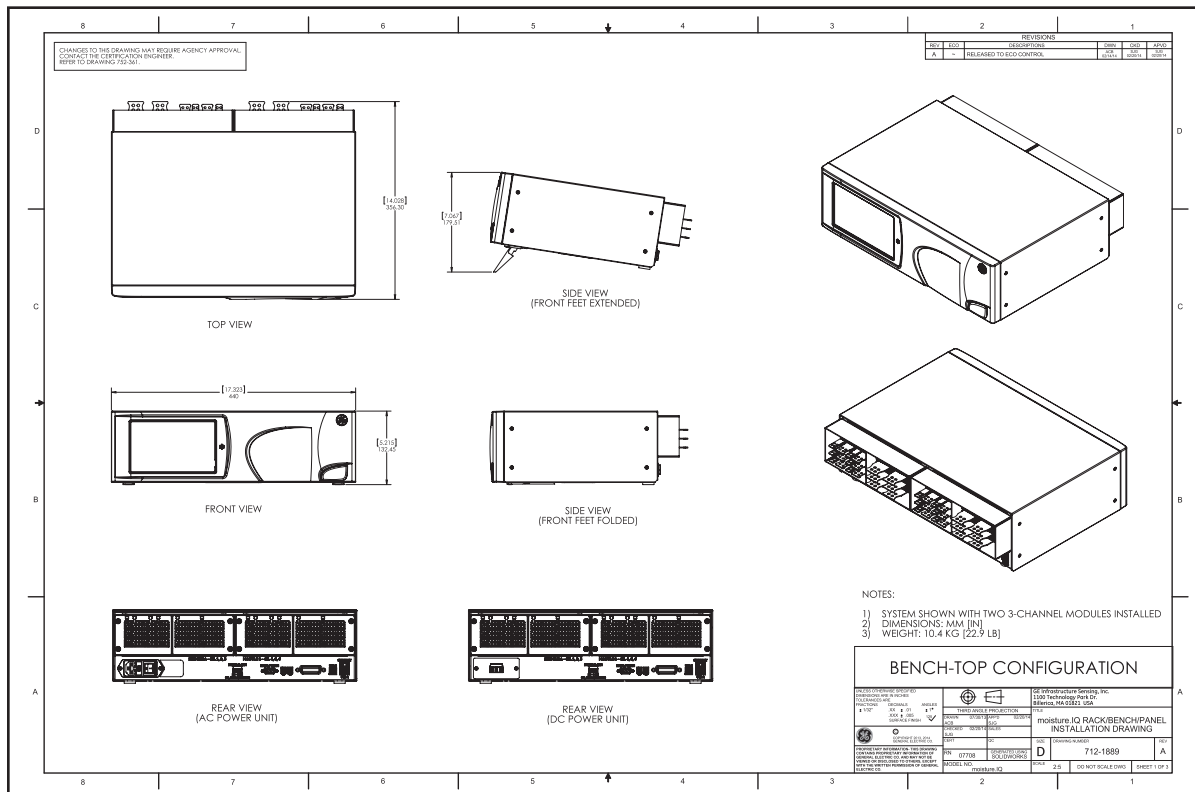
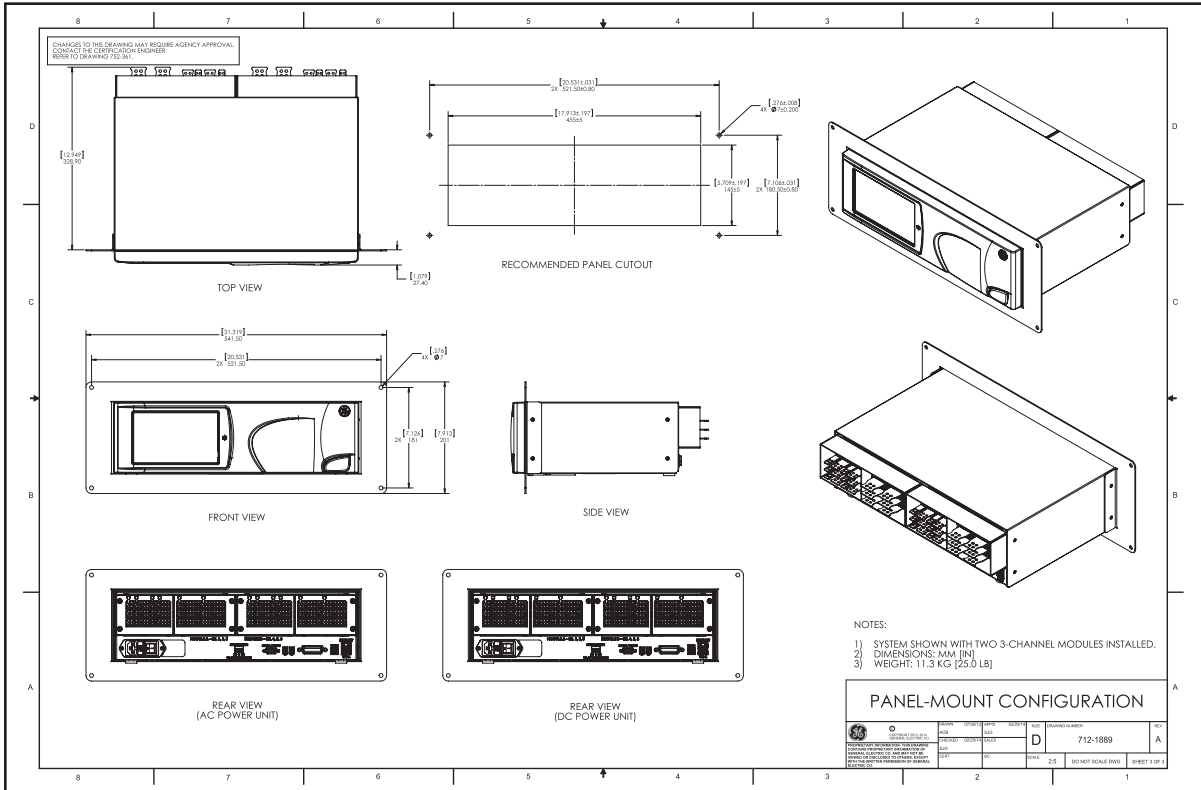

Figure 9: Bench-Top Configuration (Dwg. 712-1889_revA, SH 1 of 3)
Figure 11: Panel-Mount Configuration (Dwg. 712-1889_revA, SH 3 of 3)
- The installation should comply with configuration drawing 712-1889 Sheets 1-3 (see *Figure 9 on page 6 through Figure 11 on page 7*).